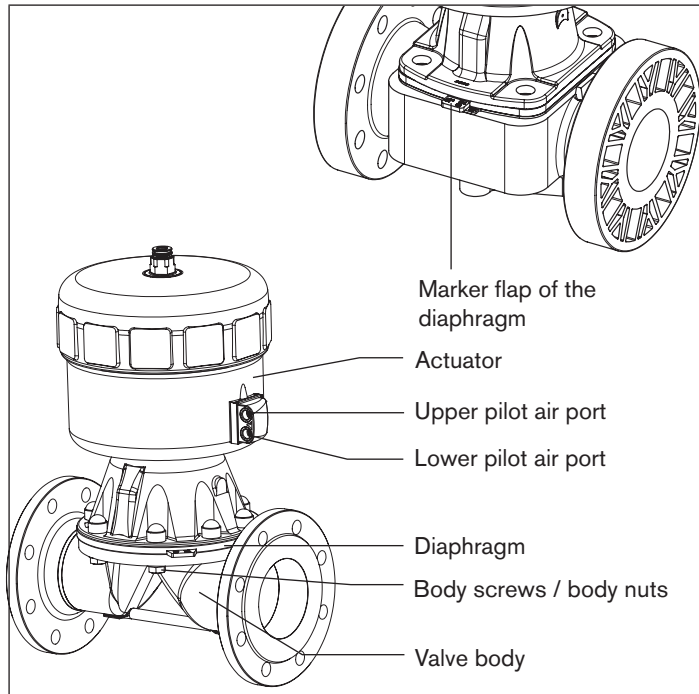

Fig. 14: Repairs
The marker flap of the diaphragm must be perpendicular to the direction of flow (see "Fig. 14")!
- Pressurize upper pilot air port of the actuator with compressed air (5 bar) (see "Fig. 14").